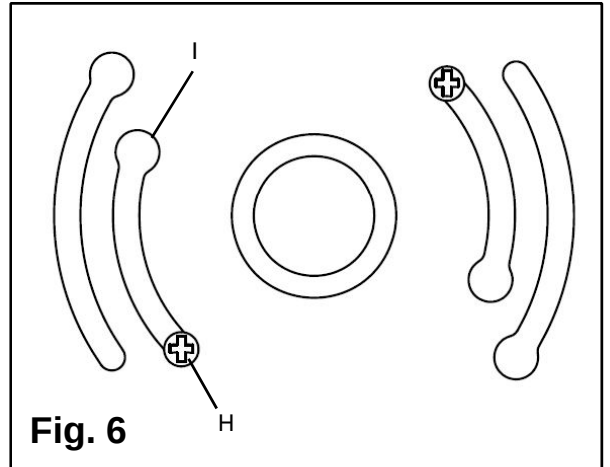

Fig. 6
5. Feed the **mounting screws (H)** through the **keyhole slots (I)** into the holes of the **outlet box (F)**. Tighten the **mounting screws (H)**. **(Fig. 6)**